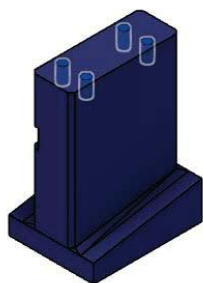

Figure 0-5
- 4 holes at the top of the AR15 vise block. Refer to Figure 0-5